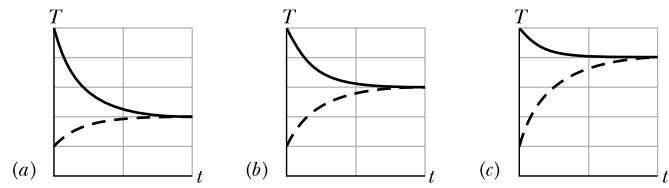

Figure 18.6 Question 11.
- 11** A hot object is dropped into a thermally insulated container of water, and the object and water are then allowed to come to thermal equilibrium. The experiment is repeated twice, with different hot objects. All three objects have the same mass and initial temperature, and the mass and initial temperature of the water are the same in the three experiments. For each of the experiments, Fig. 18.6 gives graphs of the temperatures T of the object and the water versus time t . Rank the graphs according to the specific heats of the objects, greatest first.